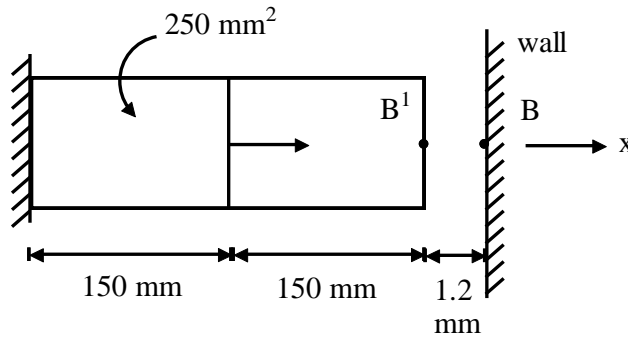

Fig. 1
7. In fig. 1 a load of $P = 60 \times 10^3 \text{ N}$ is applied as shown. Determine the displacement, stresses and support reaction in the body. Take $E = 20 \times 10^3 \text{ N/mm}^2$. 13